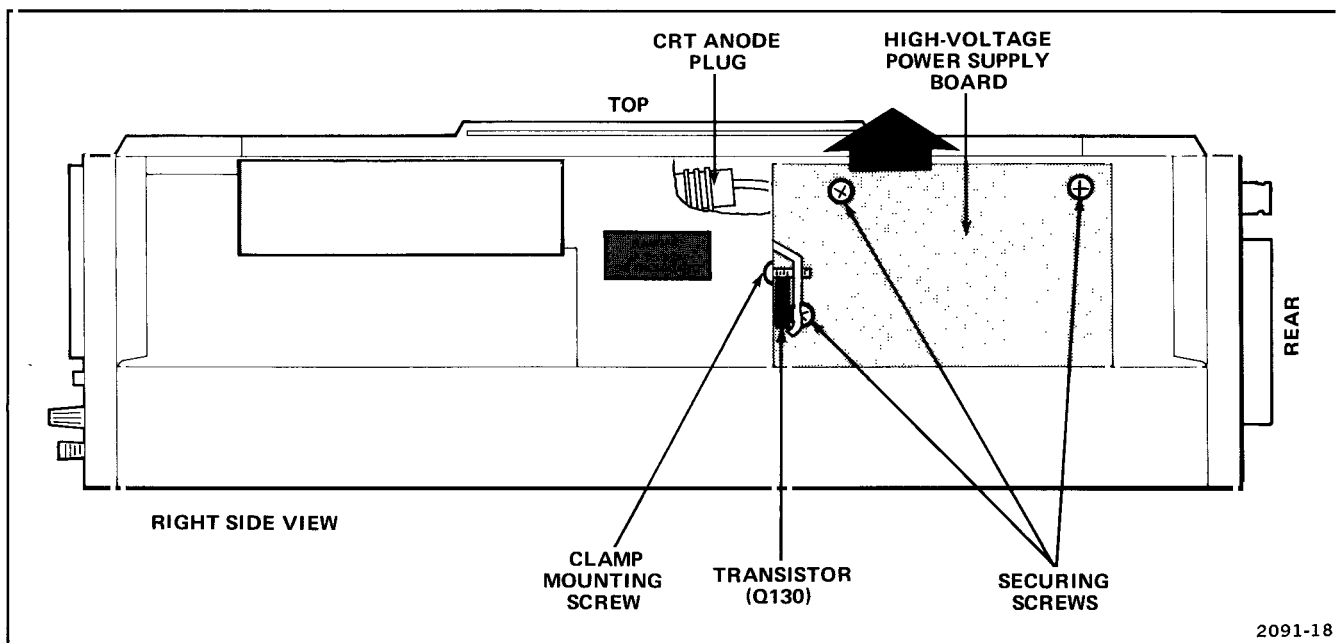

Figure 5-4. A3—High-Voltage Power Supply board removal and replacement.
**HIGH-VOLTAGE POWER SUPPLY BOARD—A3.** Remove and replace the High-Voltage Power Supply board as follows (see Fig. 5-4):